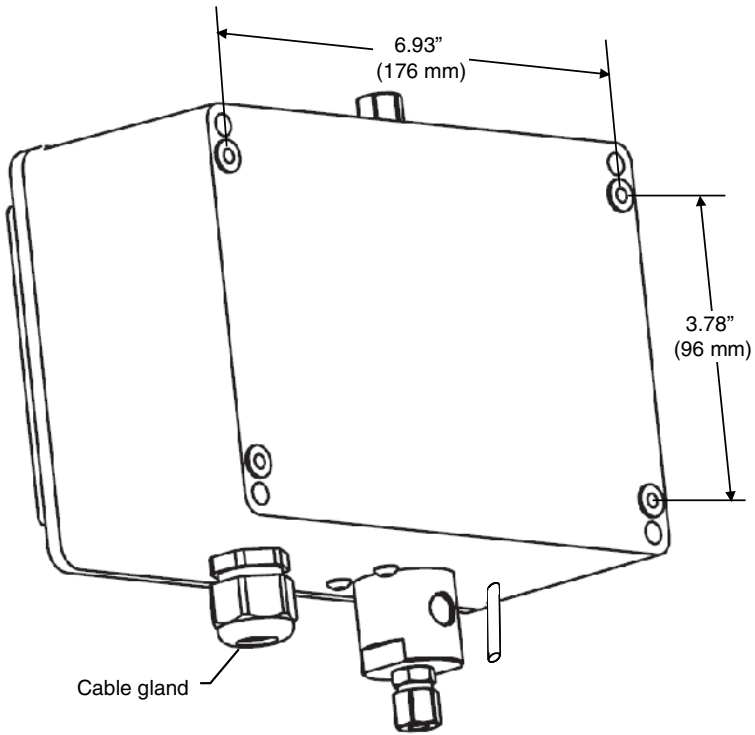

Figure 6: DripDoser – rear view showing mounting centers
1. In order to mount the DripDoser, drill four 1/4-inch holes in the metal plate that mounts the DripDoser according to the drilling template shown in Figure 6: DripDoser – rear view showing mounting centers
The power and control cable is routed through the bottom of the connection box through the cable gland (see Figure 6).